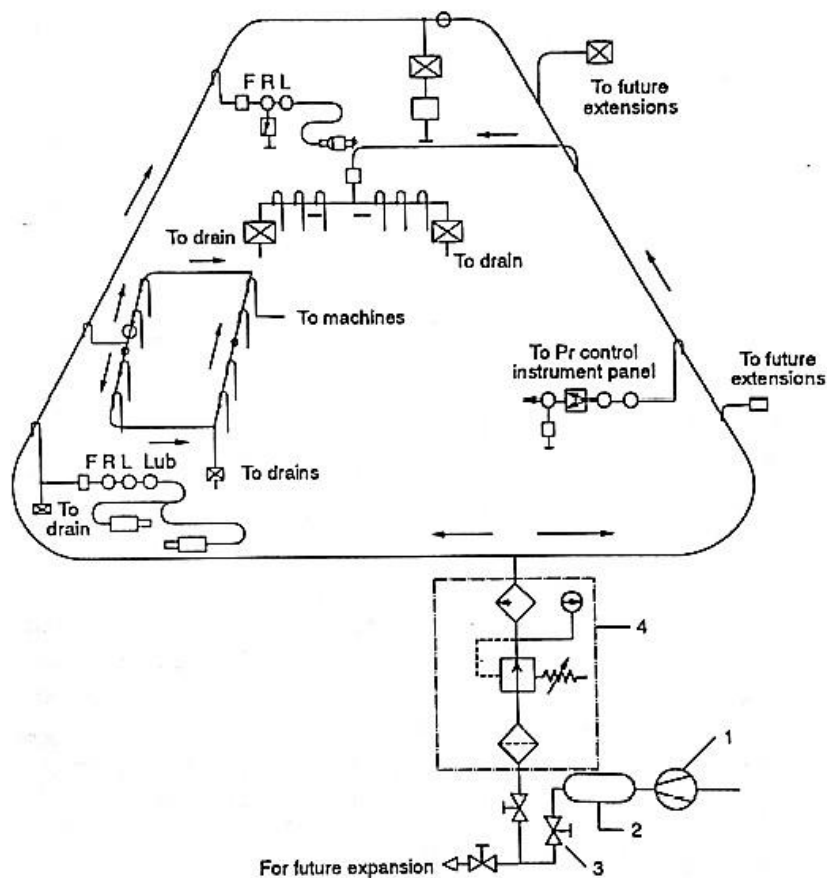

Fig.4.12 Loop System In Piping Layout
- ▶ To achieve this, it is essential that the loop type of piping should be used as shown in *Fig.4.12*. and straight line type long distance piping layout is to be discarded as far as possible. Minimum number of bends are to be used in the line to keep the losses due to friction to the minimum.
- ▶ In *Fig.4.12* , various take off points from the main pipeline of a pneumatic system may be noted. The horizontal main is on the wall with a slope. The feedlines are taken from the top of the pipeline through bends. Number of stop valves are used in each branch pipeline to act as